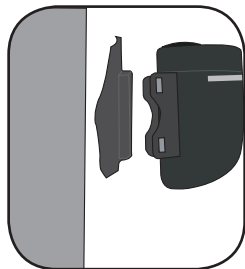

Figure 10- Wireless sensor, foot, and fork blade
3. For a wireless sensor, install the rubber "foot" in the sensor (Figure 10).